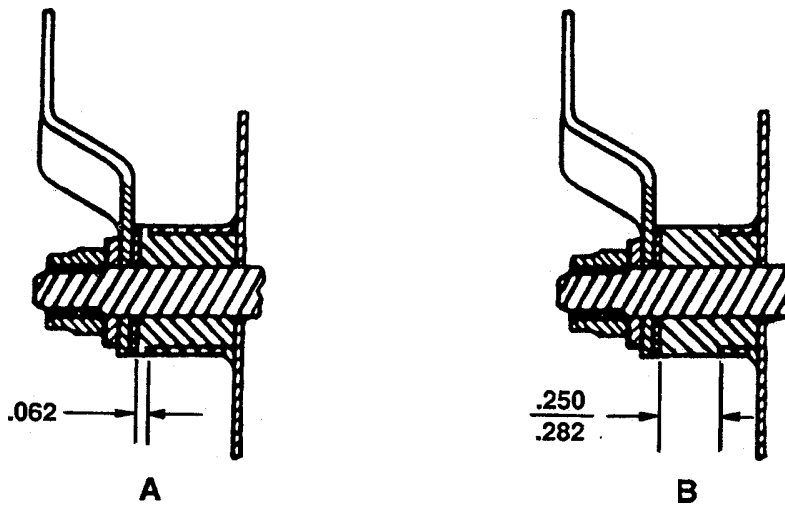

FIGURE 1
2. Measure the exposed portion of the Teflon bearing. See Figure 1.
- A. Those carburetor air intake housing assemblies having an exposed portion of the Teflon bearing which measures .062 (as shown in Figure 1 A) do not require replacement pursuant to this bulletin. However, such assemblies should be inspected thoroughly as part of each 100 hour inspection and any discrepancies corrected.
- B. Any carburetor air intake housing assembly having an exposed portion of the Teflon bearing which measures .250 - .282 (as shown in Figure 1 B) must be inspected in accordance with this bulletin, with repetitive inspections at 25 hour intervals until the assembly is replaced.